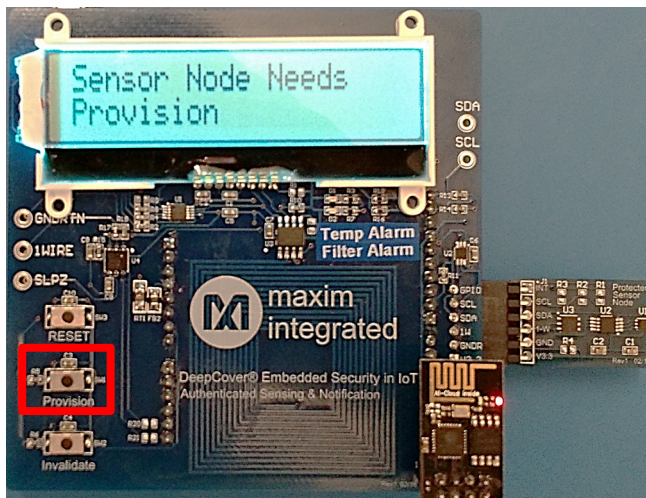

Figure 15. Sensor Node needs Provision button.
6. A prompt displays if the Sensor Node has never been provisioned. Press the **Provision** button to perform the procedure and continue (Figure 15).